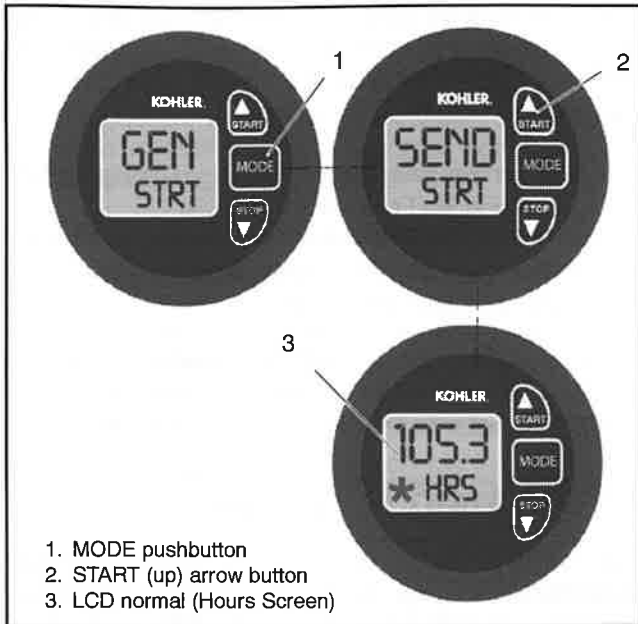

Figure 15 Gen START Gauge Pushbutton Functions
1. Press the **MODE** button until GEN STRT appears on the LCD screen. See Figure 15.
Press the **START** arrow (up) button ▲ to activate the alarm. See Figure 15.